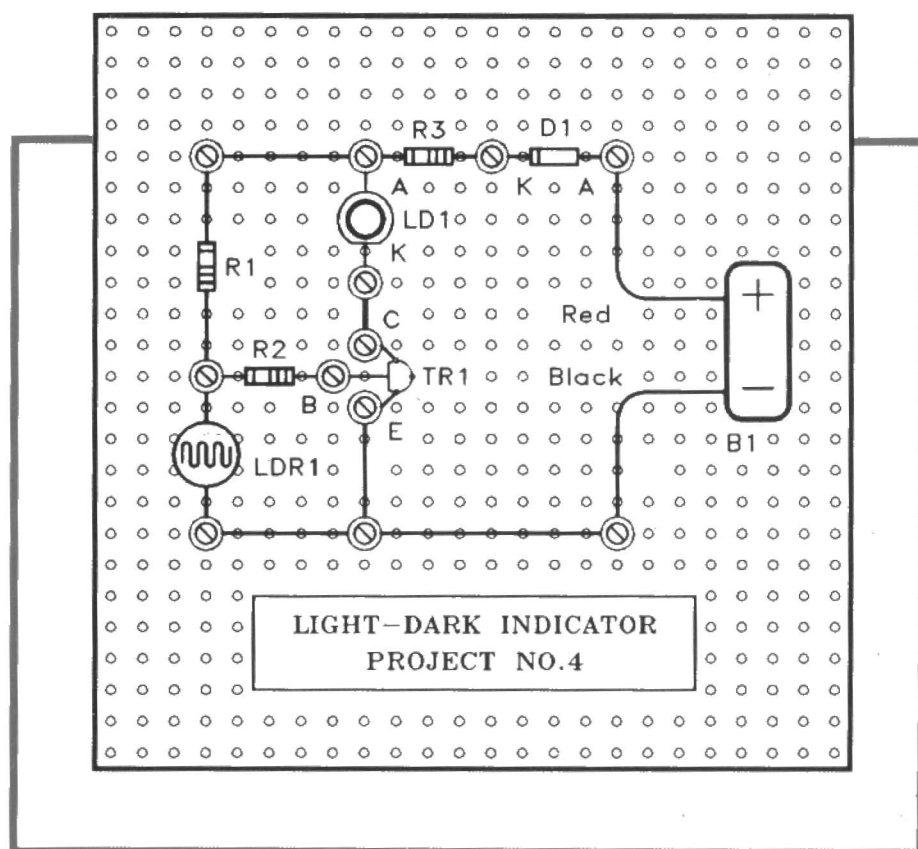

Figure 2. The component guide-sheet for the Light-Dark Indicator.
1. Cut out the component guide-sheet provided with the kit (which is a full-size copy of Figure 2), and glue it to the top of the plastic board. Paper glue or gum should be okay. Do not soak the paper with glue, a few small 'dabs' will do.